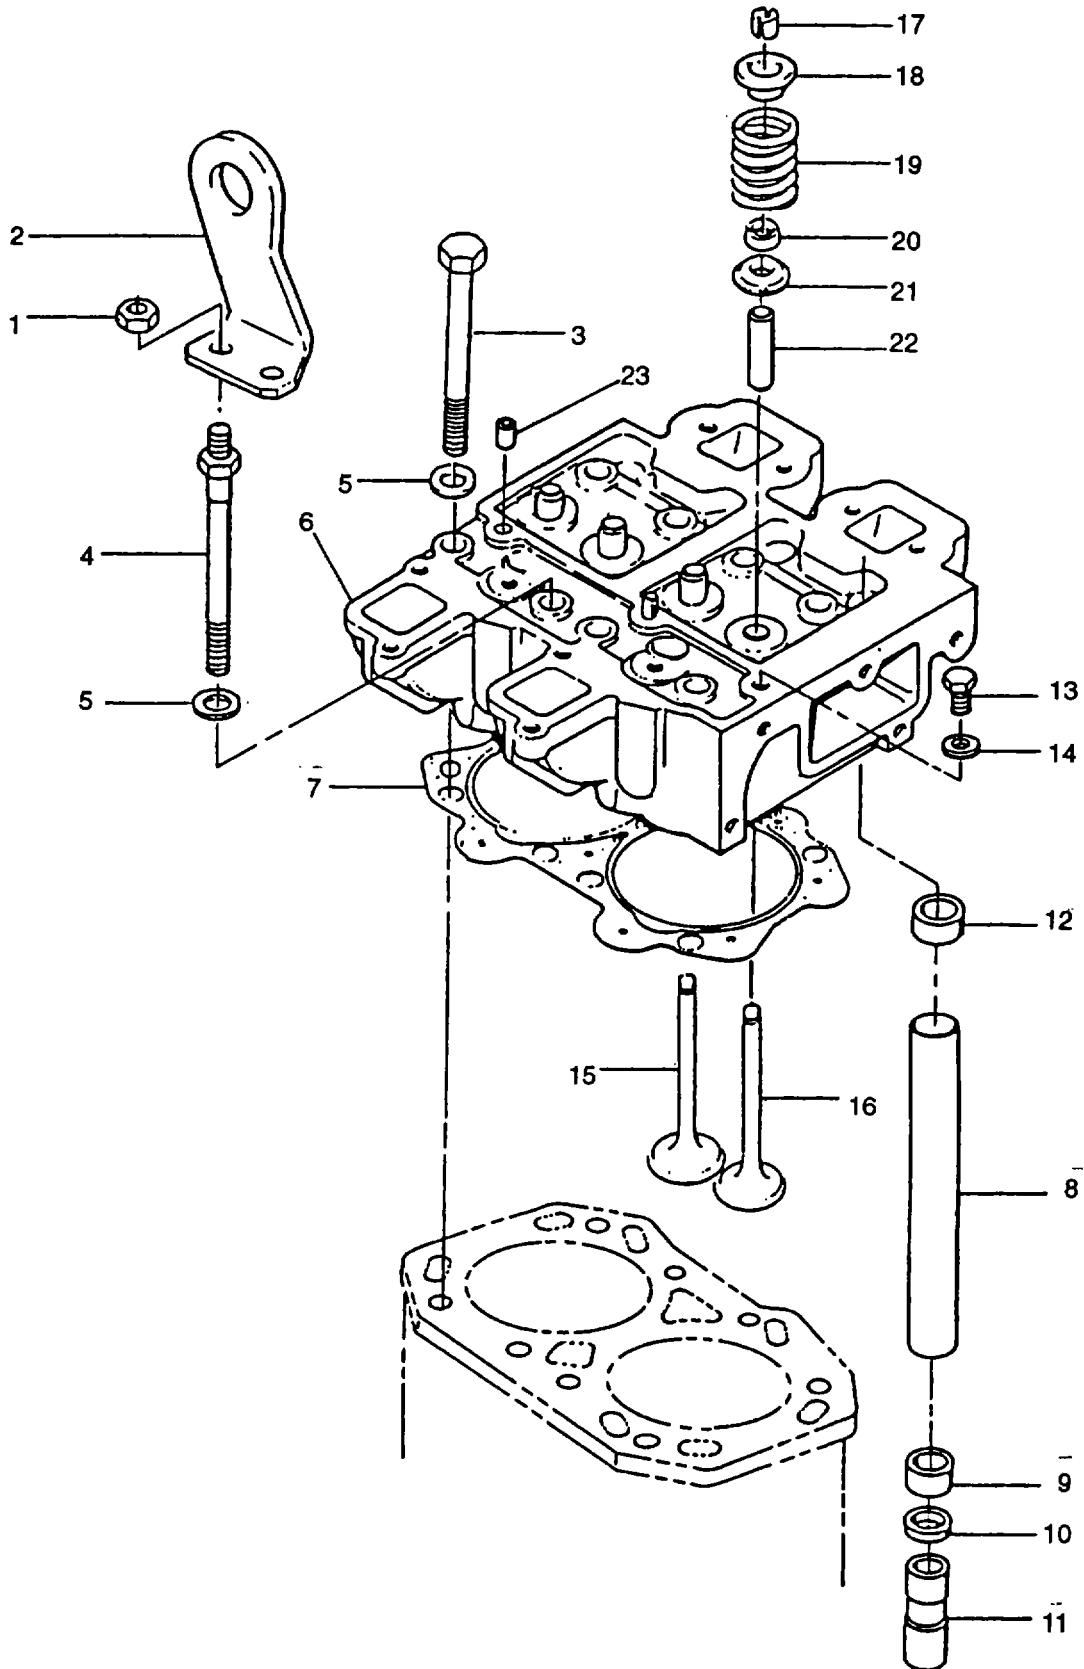

FIGURE 3-28. Cylinder Head Assembly
- e. Remove two nuts (1, FIGURE 3-28) securing lifting eye (2); remove lifting eye (2).
- i. Lift off cylinder head (6, FIGURE 3-28) and gasket (7). Discard gasket.
- a. Remove pushrod tubes (8, FIGURE 3-28), seals (9), washers (10) and tappets (11) from crankcase.
- b. Remove seals (12) from cylinder head (6). Discard seals (12)
- c. If necessary, remove capscrew (13) and washer (14).
- a. Using standard valve spring compressor tool install each valve (15 or 16, FIGURE 3-28) as follows:
- (1) Lightly lubricate valve stem with engine lubricating oil (MIL-L-2104) and insert valve (15 or 16).
- (2) Lay head (6), upright on bench and place a block of wood under head of valve being replaced.
- (3) Place valve spring plate (21) in position.
- (4) Install a new valve stem seal (20) to valve guide (22) taking care to ensure it is correctly located over valve guide and is not distorted.
- (5) Install valve spring (19) and spring carrier (18).
- (6) Push down on tool until collets (17) can be installed in position with their tops slightly sunk in valve spring carrier (18).
- (7) Gently release tool and check that collets (17) are correctly located.
- b. If removed, install capscrew (13), washer (14), and breather tubes (23).
- a. Ensure cylinder head (6, FIGURE 3-28) and crankcase mating surfaces are clean and dry.
- b. Install hydraulic tappets (11) (solid end first) and new washers (10) in crankcase.
- c. Install new pushrod seal (12) in cylinder head (6) and new pushrod seal (9) in crankcase.